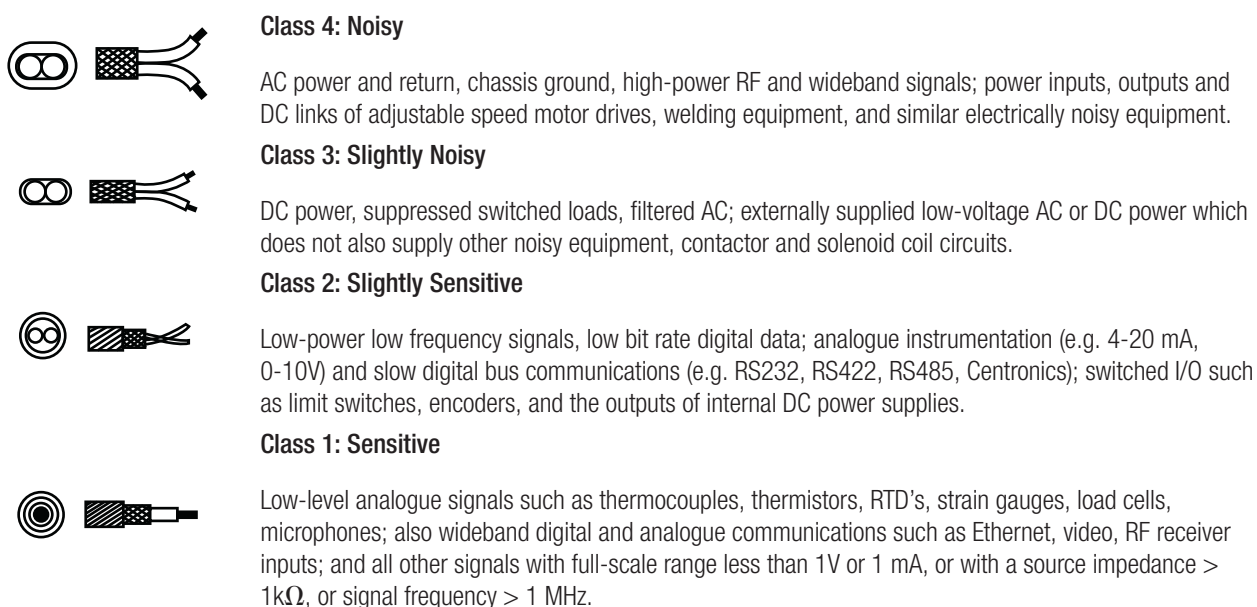

Figure: 6-3
- See cable type chart **Figure: 6-3**